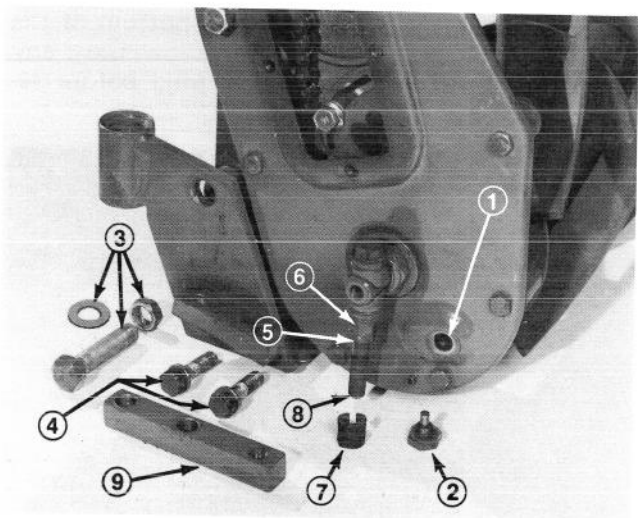

Figure 8
3. Remove the fill plug and drain the oil from case (Fig. 8).
4. Loosen jam nut and full nut securing adjustment screw (Fig. 8), thread adjustment screw out of reel adjustment block and remove screw and assembled parts from reel shaft (Fig. 8, 9).